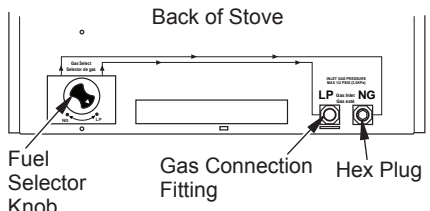

Figure 8 - Settings for Propane/LP Gas Selection
2. For PROPANE GAS, press in knob using a flat screwdriver with a blade the thickness of a quarter and turn knob counterclockwise until the knob locks into the LP position (see Figure 8). Fuel selection device must be locked in the LP position. Do not operate heater between locked positions.
4. Remove hex plug (with wrench provided) from propane/LP gas inlet of regulator (see Figure 8). Install hex plug into NG inlet of regulator. Install gas line into LP inlet of regulator. Use thread sealant to assure there are no leaks.